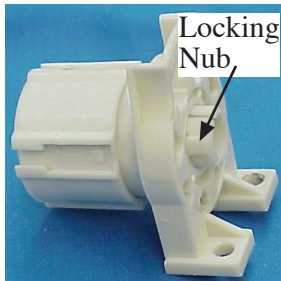
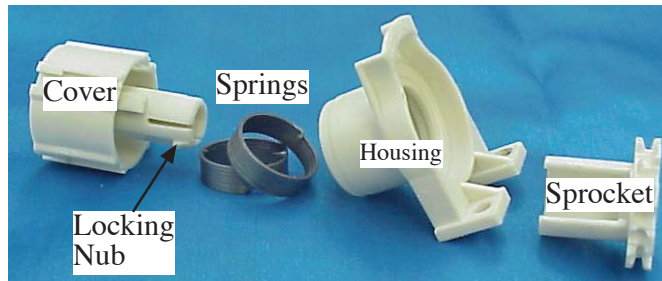
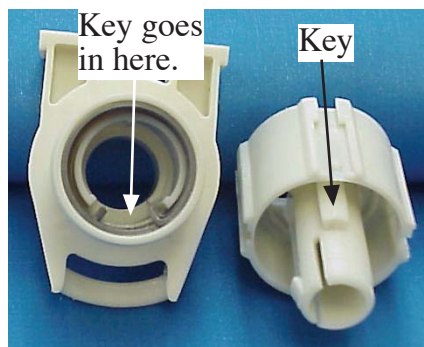
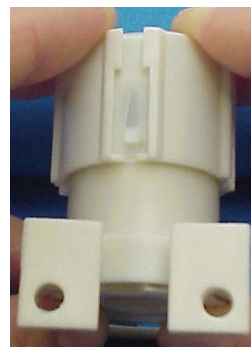

Figure 1. Assembled Clutch
Figure 2. Disassembled Clutch
Figure 6
Figure 7
Occasionally, a clutch can accidentally pop open. It can be re-assembled together without any tools. Figure 1 shows an assembled clutch. Figure 2 shows a disassembled clutch with 4 components, cover, springs housing and sprocket.
**Step 3.** Position the key on the cover between the spring tangs (see Figure 6). Firmly push the cover and housing as shown in Figure 7, and squeeze the locking nub through the hole in the sprocket until you hear a "click" and the locking nub is completely exposed as shown in Figure 1.